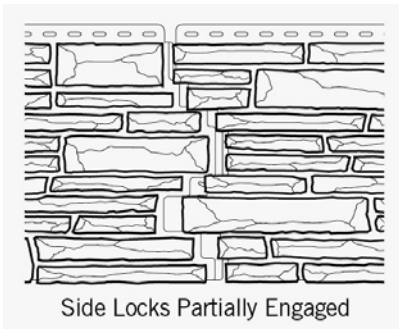

Figure 5
Hook the next panel into the starter strip and slide it into the first panel assuring the two (2) side locks engage with the slots from the preceding (installed) panel (figures 5 and 6).